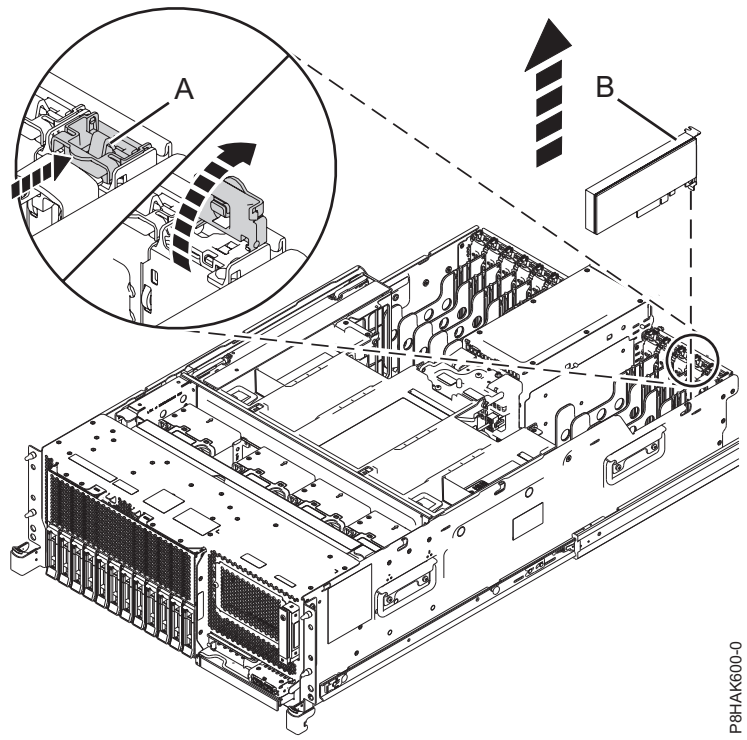
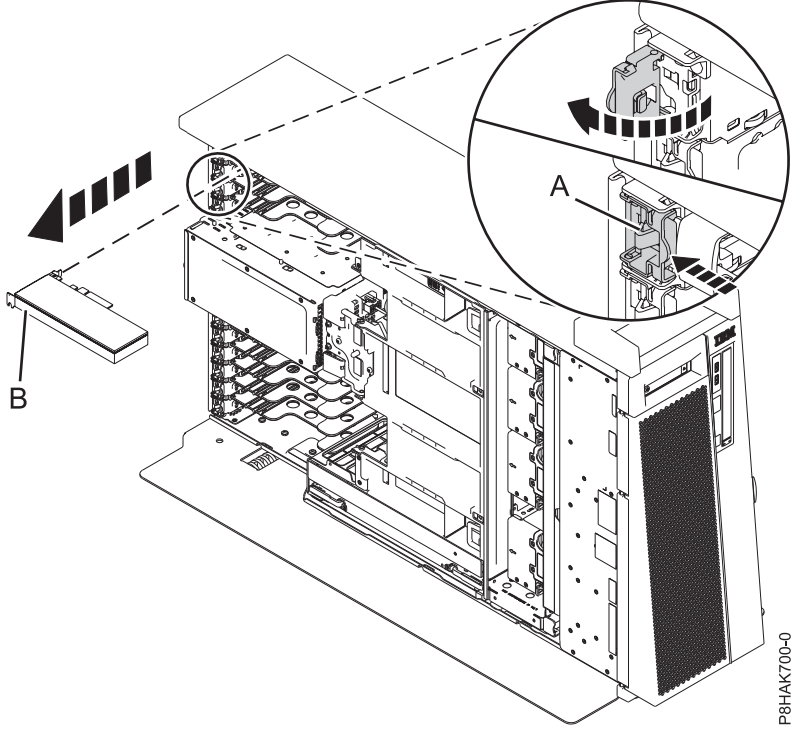

Figure 50. Removing a PCIe adapter from a rack-mounted system
Figure 51. Removing a PCIe adapter from a stand-alone 8286-41A system
2. To set the adapter latch (**A**) at the target slot into the open position, rotate the latch (**A**) on the rear of the system, in the direction shown in Figure 50 on page 54 and Figure 51 on page 54.
3. Carefully grasp the adapter (**B**) by its top edge or tailstock, and remove the adapter from the slot, as shown in Figure 50 on page 54 and Figure 51 on page 54.